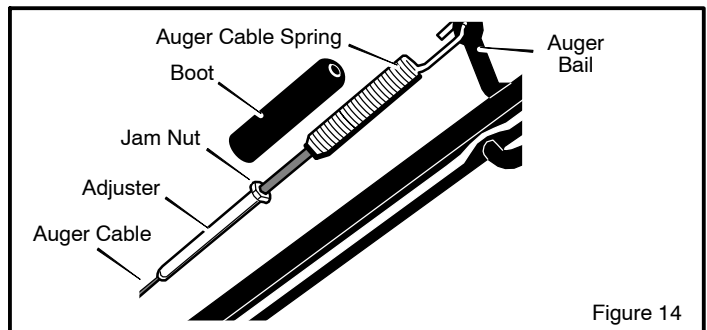

Figure 14
10. When you release the **auger bail**, the auger must stop rotating. Make sure the **brake** contacts the **auger drive pulley** (Figure 15) and that the **auger cable spring** (Figure 14) has slack (no tension). If not, check the cable spring adjustment as follows:
- Remove the end of the **auger cable spring** from the **auger bail** (see Figure 14).
- Loosen the **jam nut** (see Figure 14).